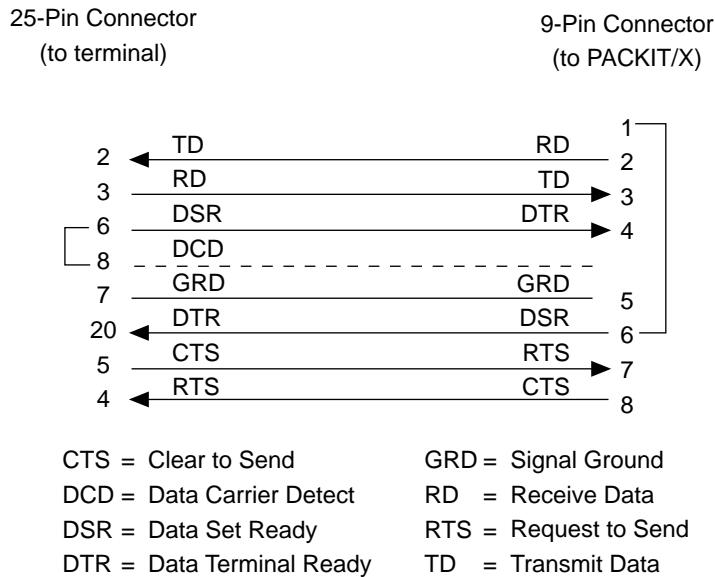

FIGURE 8-42. 25-Pin to 9-Pin Transition and Null Modem Cable Lead Mapping
2. Connect the other end to the administrative monitor. Figure 8-42 shows the 9-pin to 25-pin cable lead mapping.